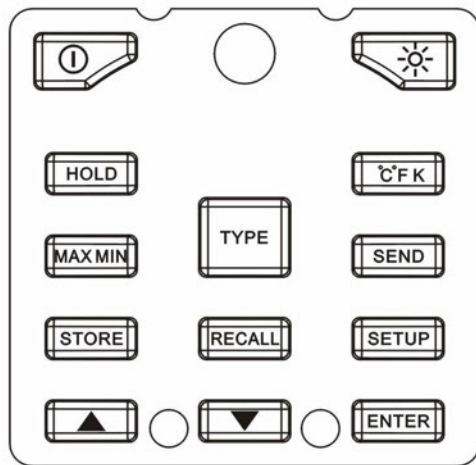

Figure 3-a ST620B button set
- Figure 3-a and 3-b and Table 5 describes the functions of the buttons.